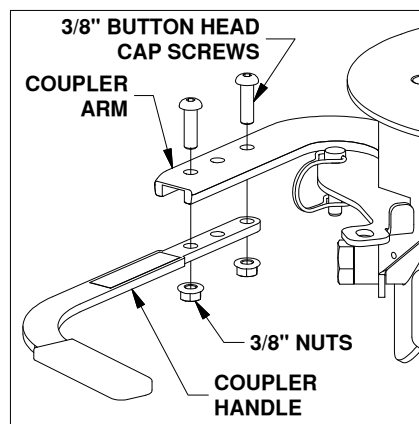

Figure D1: View of coupler handle.
1. **Open coupler.** Locate the two 3/8" x 1-1/4" button head cap screws and the two 3/8" lock nuts provided in a bolt bag. Using the carriage bolts and the nuts, attach the coupler handle to the arm and tighten, see Figure D1.